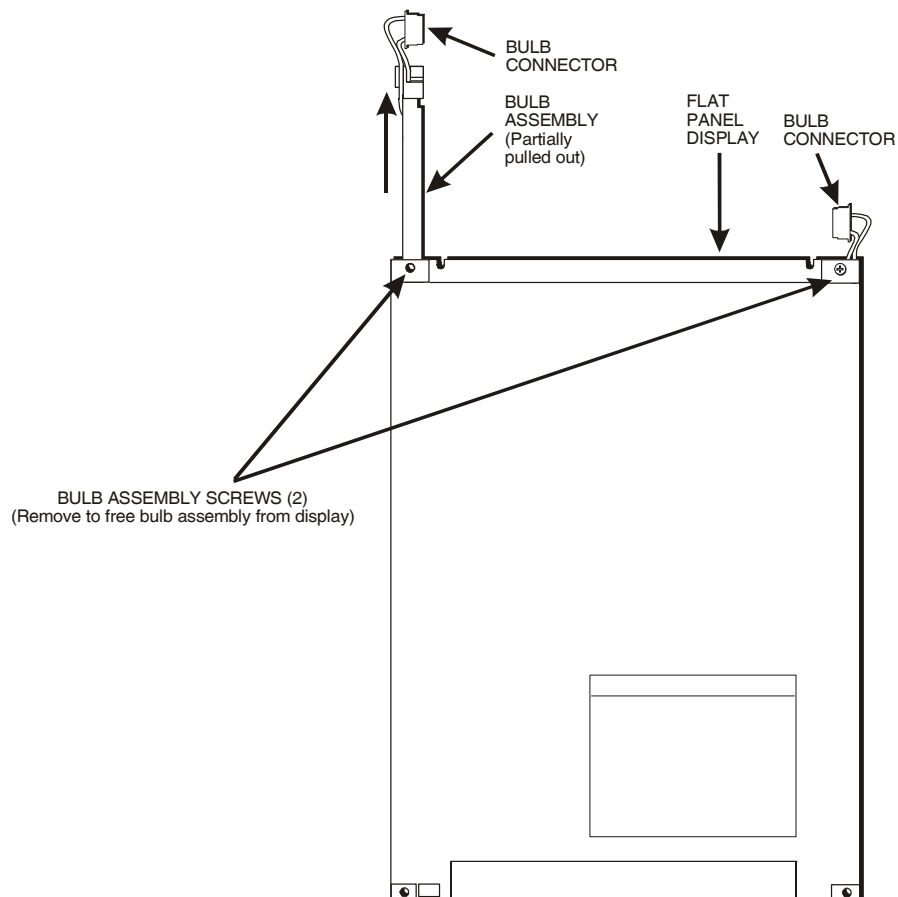

Figure D- 2. Model #LQ150X1DG16- Rear View
11. Referring to Figure D-2, remove the two set screws and slide the bulb assemblies out.